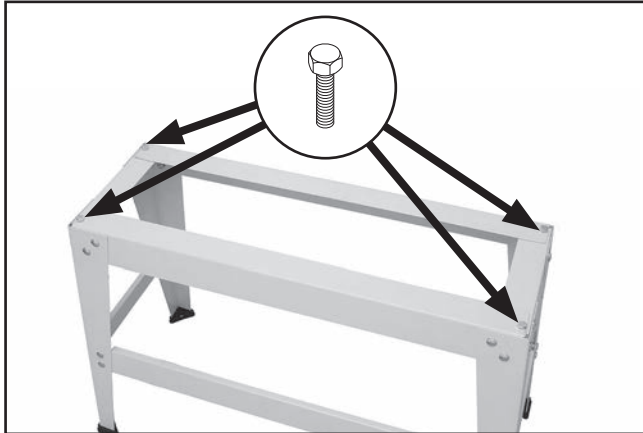

Figure 16. Hex nuts inserted in holes through upper end supports and upper side supports.
6. Insert (4) M6-1 x 20 hex bolts in holes through upper end supports and upper side supports (see **Figure 16**).